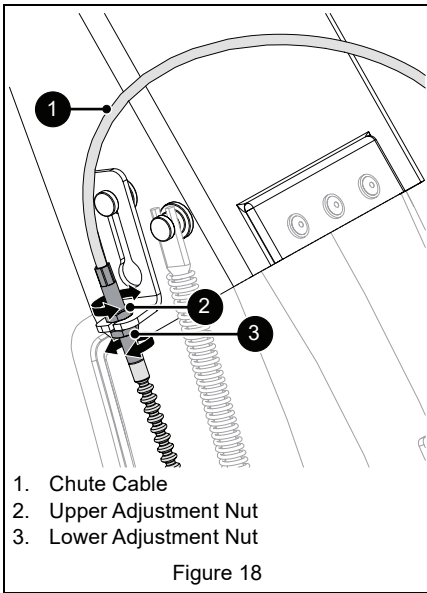

Figure 18
2. Adjust nuts on chute cable. See Figure 18.